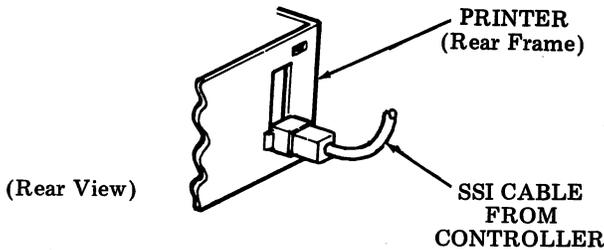

Fig. 8
3.13 Plug the SSI cable connector, coming from the station controller, into the mating connector located at the left rear of the printer. See Fig. 8.